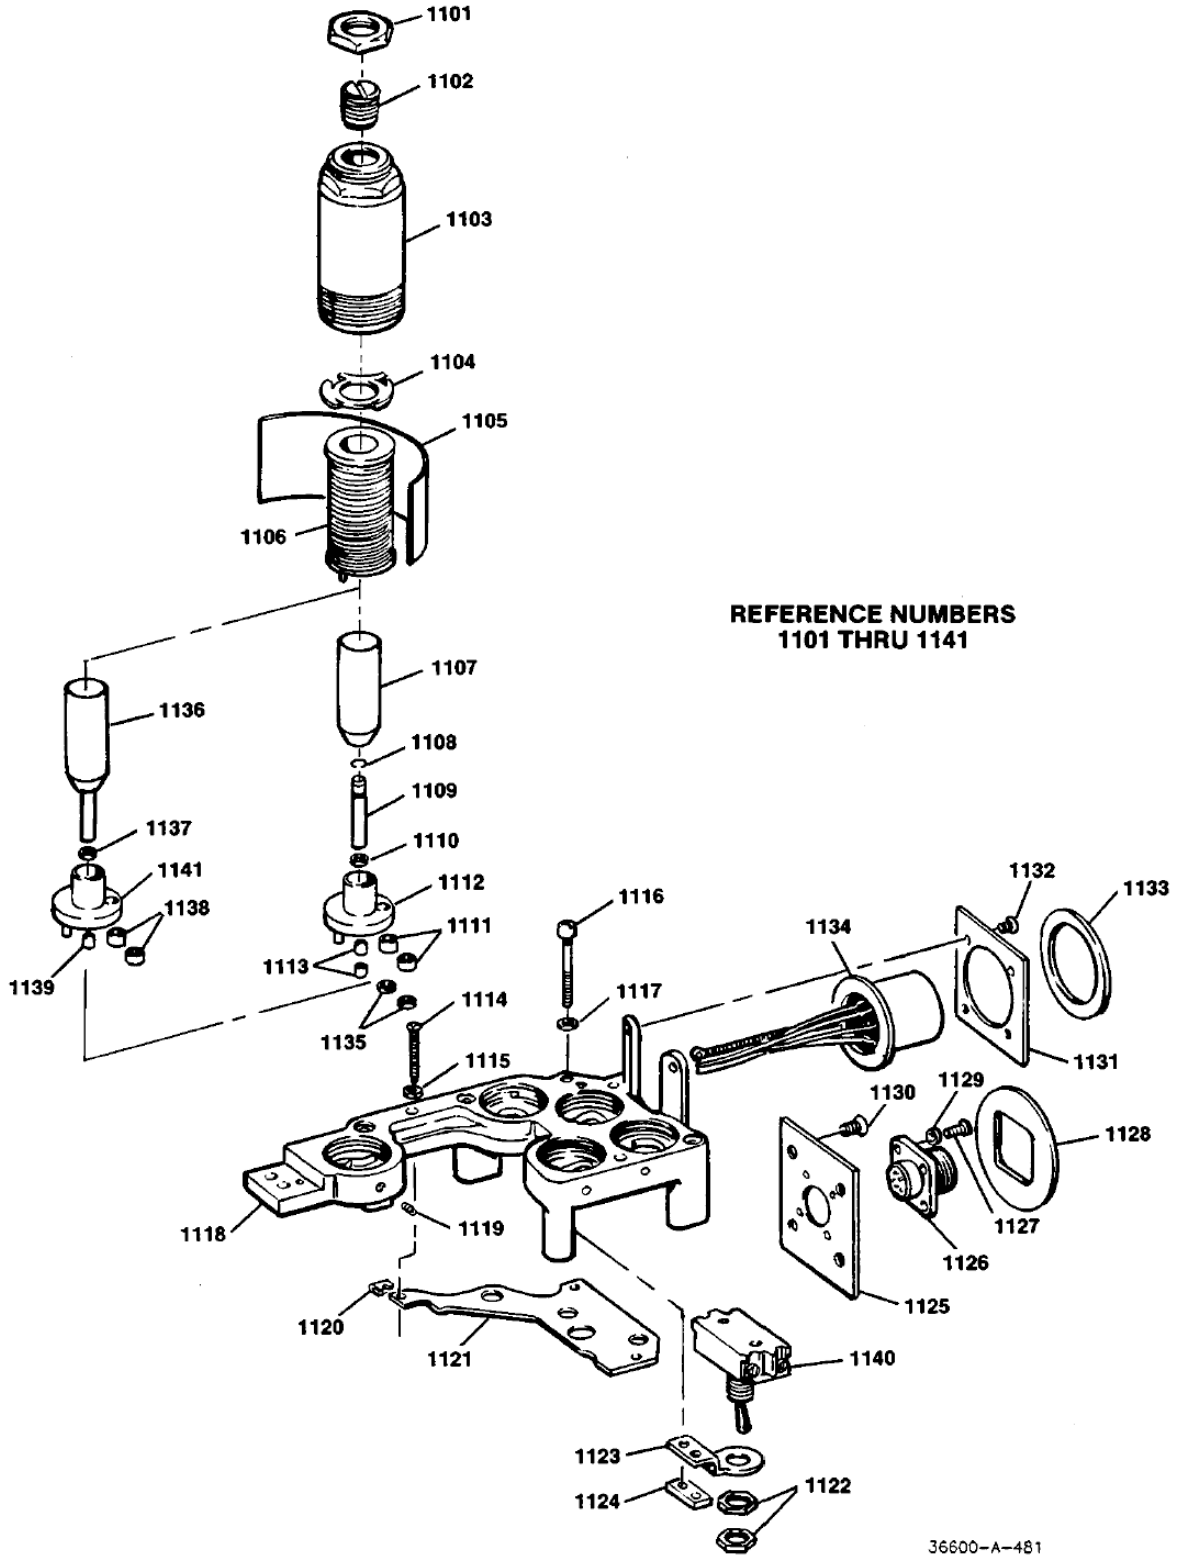

Figure 7-16. Exploded View of Electrical Receiver Assembly
**Parts List For Figure 7-16**